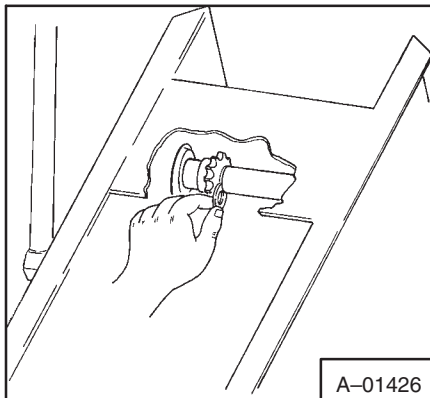

Fig. 102 Checking for Clearance
6. Try to spin the shaft by turning the pulley by hand. The shaft should be free to spin three times. If it is too loose, check for clearance between the sprocket and jackshaft shoulder using .010" and .025" shims (Fig. 102). Install shims equal to any clearance found.